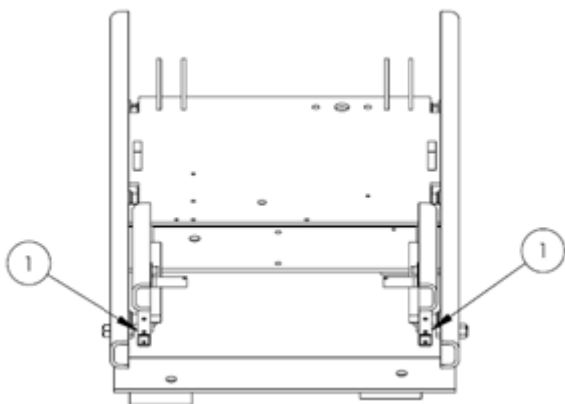

Figure 1.8
- b.) Install the Footrest Plate Assembly onto the Footrest Mounting Holes (See #1 of Figure 1.8) of the Bottom Plate Assembly.